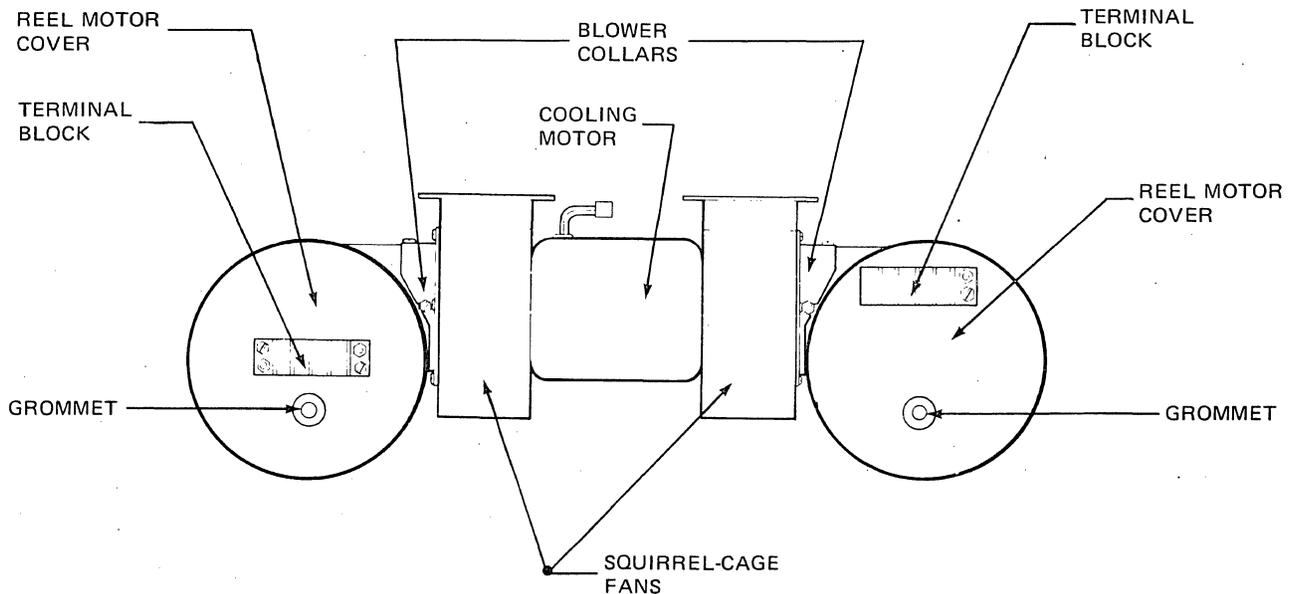

Figure 4-34. Reel Motor Cooling Assembly
- Disconnect the reel motor wires at the terminal blocks located on the rear of the two reel motors (see Figure 4-34).